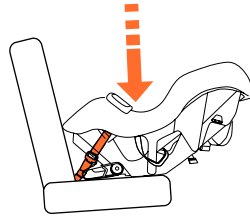

Fig. 27a
- Use body weight or apply weight in seat with hand to compress the vehicle seat cushion then insert the seat buckle and pull seat belt tight as possible (Fig. 27a). Pull excess webbing at buckle tongue to tighten.